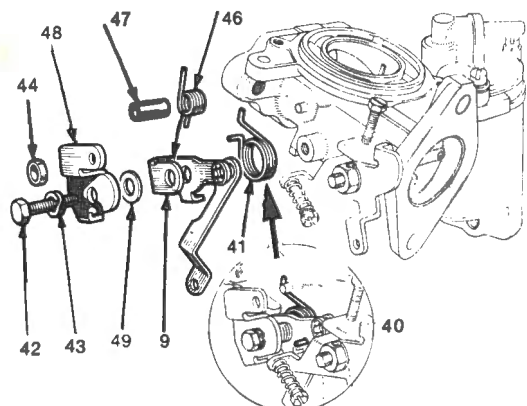

Fig. F-27
- 8 Support the moulded base of the jet (26) and slacken the screw (27), retaining the jet pick-up link (28).
- 9 Relieve the tension of the pick-up lever return spring (29) from the screw and remove screw and brass bush (30) when fitted.
- 10 Unscrew the brass sleeve nut (31) retaining the flexible jet tube (32) to the float chamber (33) and withdraw the jet assembly (26) from the carburetor body (13). Note the gland (34) washer (35) and ferrule (36) at the end of the jet tube.
- 11 Remove the locking clip to clear the jet adjusting nut, and remove the jet adjusting nut (1) and spring (37). Unscrew the jet locking nut (2) and detach the nut and jet bearing (38). Withdraw the bearing from the nut. Refer Fig. F-27.